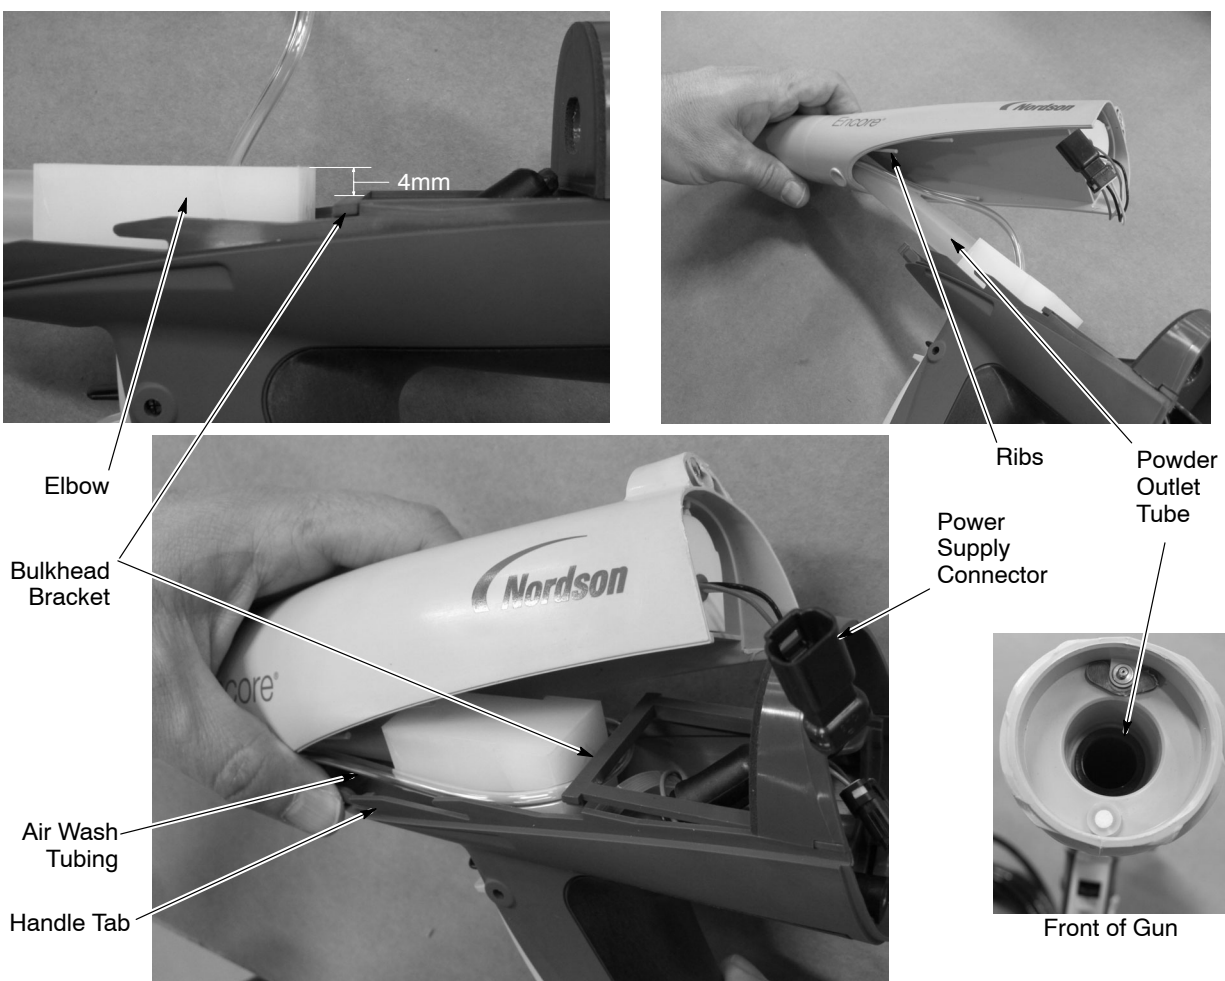

Figure 6-5 Installing the Gun Body on the Handle
2. See Figure 6-5. Insert the end of the outlet tube into the gun body, route the power supply connector through the top hole in the bulkhead, and coil the air wash tubing around the elbow as shown.